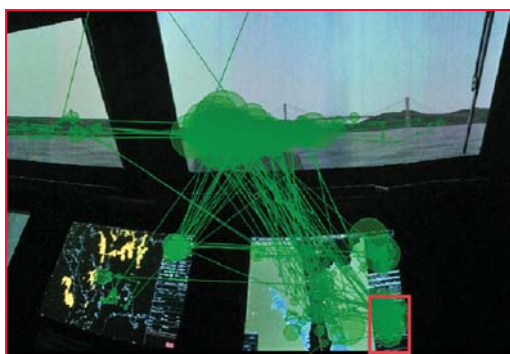

Figure 7: Scanpath participant 4
3. Route Monitor window, AOI_M (Lower right corner of ECDIS, ref Fig. 7)
Concerning graphical user interface (GUI) on a modern ship's bridge, the ECDIS SW is of particular interest to analyze. A typical scanpath (Figure 7) illustrates how much visual attention is given to the lower right corner of the ECDIS GUI, which is the Route Monitor window (AOI_M).